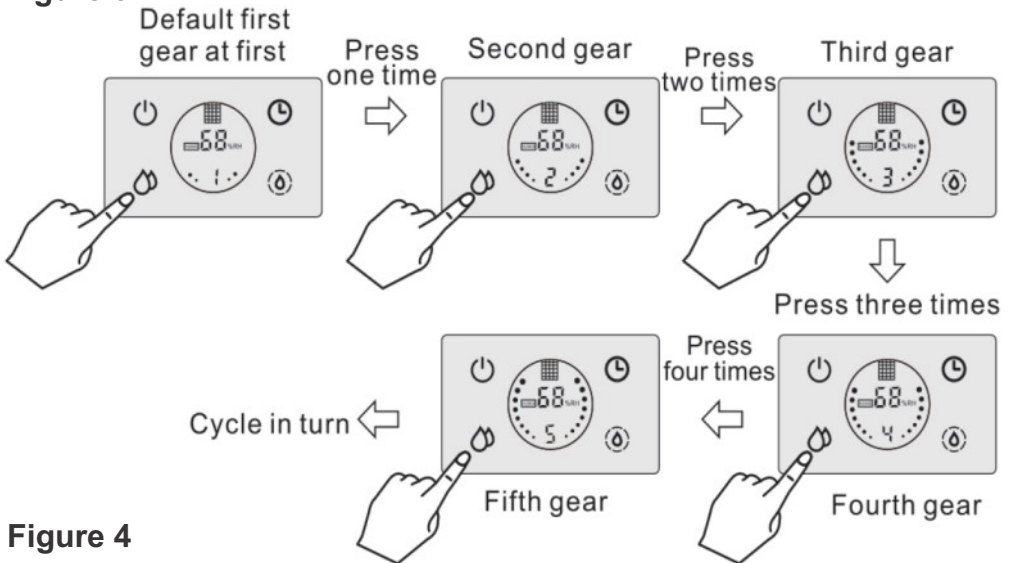

Figure 4
2. To turn on the device, press the power button (7A) once. The default mist volume is set to the first level, the display (8) will show the number 1, to put the device into standby press the button (7A) again.
3. Press the button (7C) several times to set the mist intensity. The display (8) will show numbers from 1 to 5 in turn, where 1 means low fog intensity and 5 means the maximum low mist intensity. See figure 4.